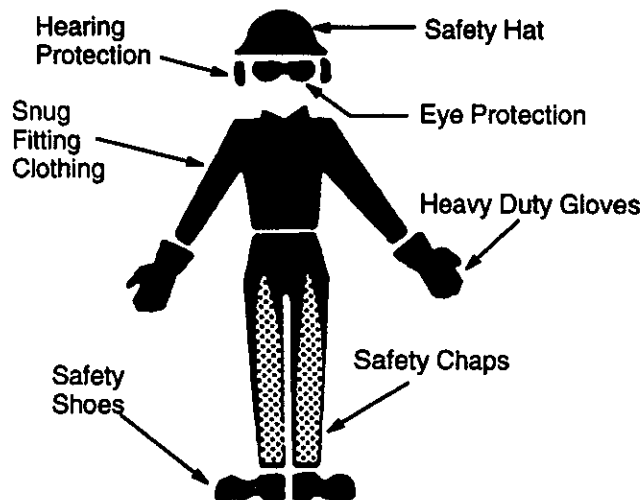

Figure 1
- **Wear protective gear.** Figure 1. Always use steel-toed safety footwear with non-slip soles; snug-fitting clothing; heavy-duty, non-slip gloves; eye protection such as non-fogging, vented goggles or face screen; an approved safety hard hat; and sound barriers—ear plugs or mufflers to protect your hearing. Regular users should have hearing checked regularly as chain saw noise can damage hearing.